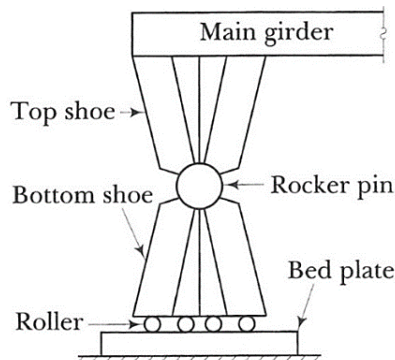

Fig.55 - Rocker and Roller
- In case of rocker and roller bearing, a rocker pin is provided between the top shoe and the bottom shoe and it Top shoe is so arranged that the bottom shoe rests on rollers as shown in fig. 55. The rollers are cylindrical in shape and they are free to roll on steel bed plate.